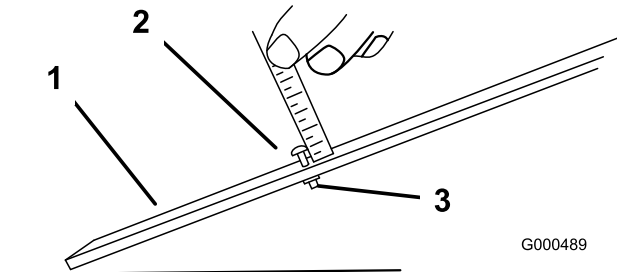

Figure 49
3. Loosen the nut on the gauge bar (Figure 49) and set the adjusting screw to the desired height-of-cut. The distance between the bottom of the screw head and the face of the bar is the height-of-cut.